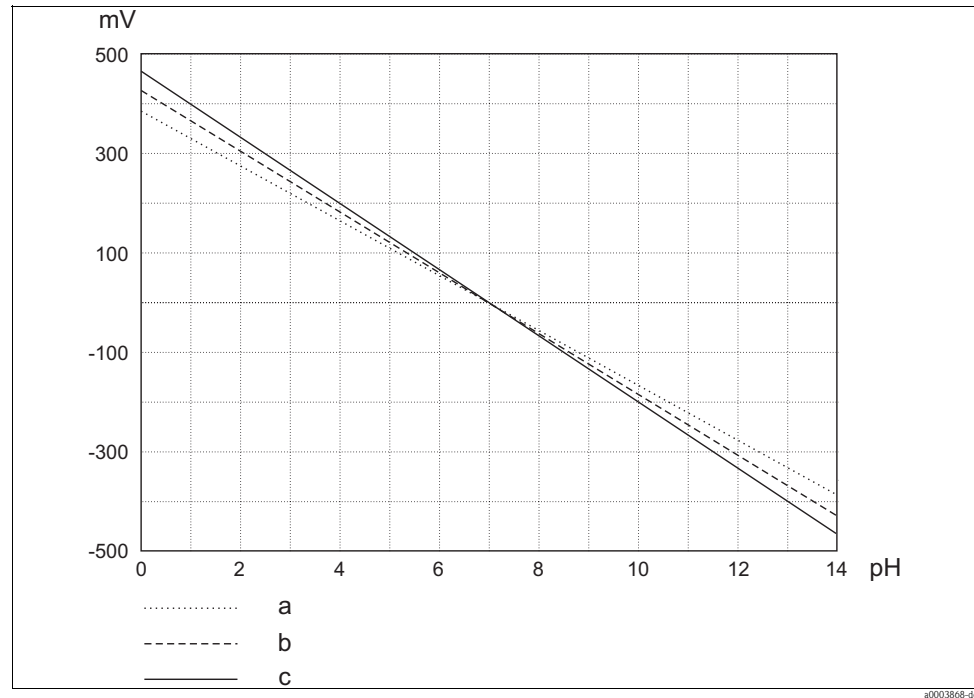

Fig. 4: Isothermic curves
- The isothermic curves of the ISFET sensor are very close to the theoretical values (see Fig 4). This is further proof for the high pH measurement precision of the sensor.